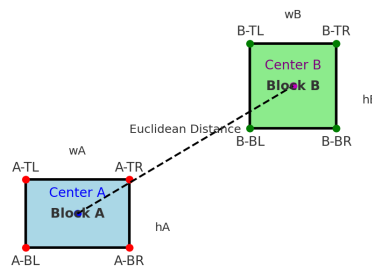

Figure 1
1. **Minimizing the total wiring distance:** Figure 1 above explains how the **center-to-center wiring length can be calculated** when both the **blocks' height, width** (w_A , h_A , w_B , h_B), and any **single pair of corner points** are given [suppose, bottom left of A (A-BL) and bottom left of B (B-BL) are given]. This is essentially the Euclidean Distance between